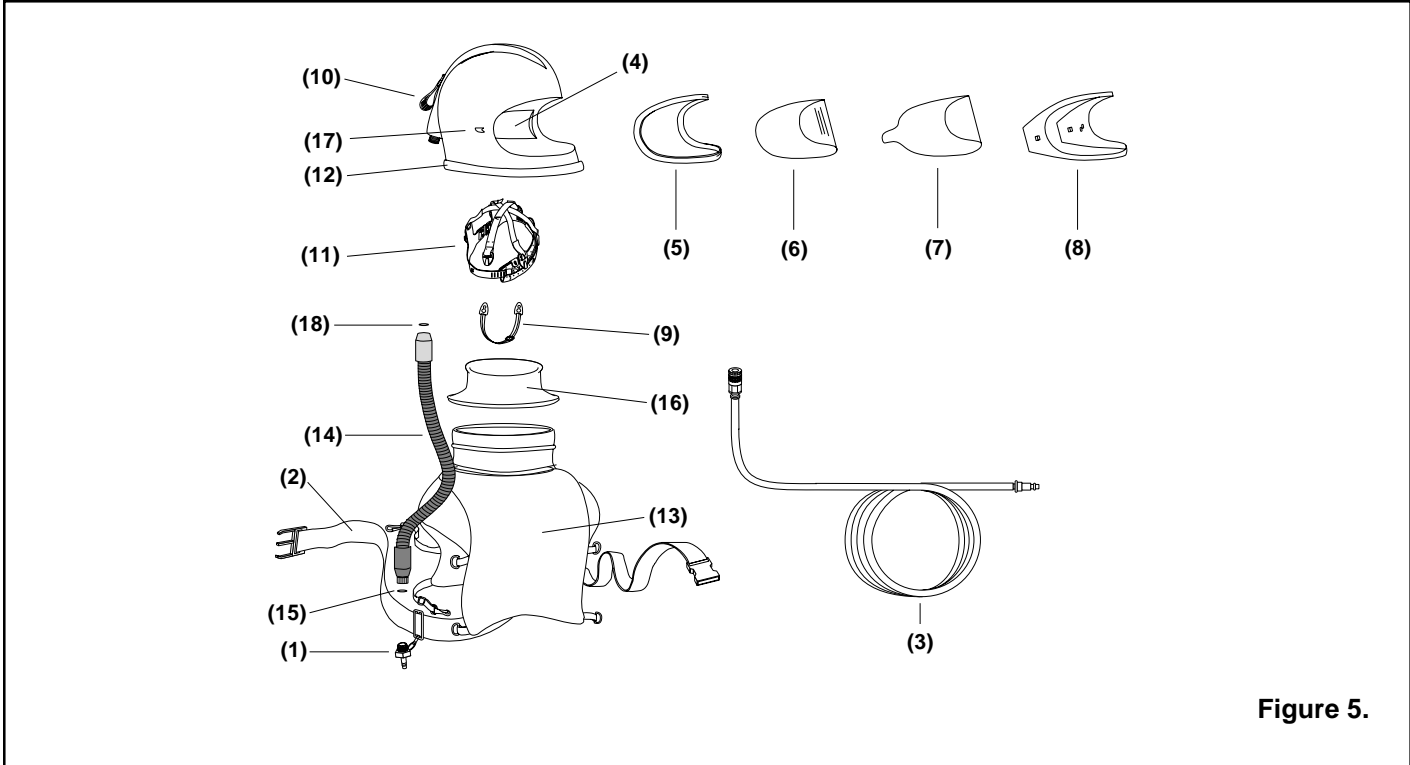

Figure 5.
10.2 Supplied-Air Respirator, Figure 5